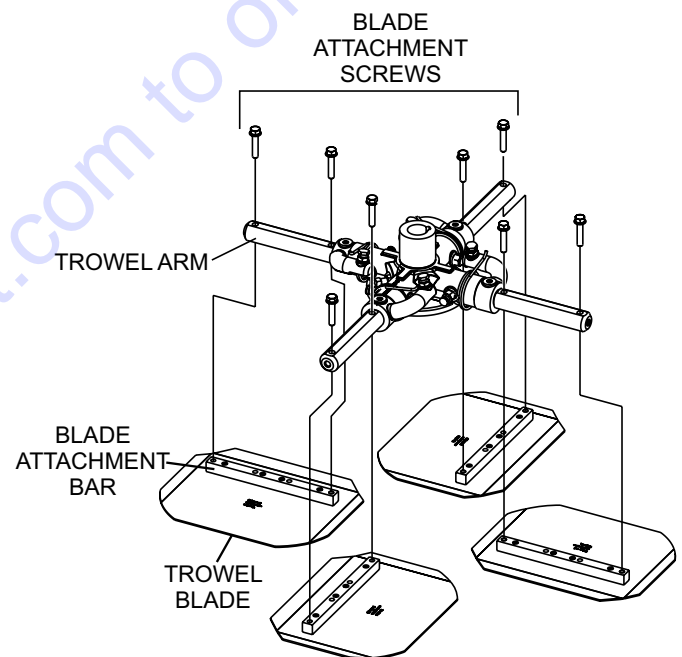

Figure 56. Blade Removal
2. Remove the bolts and lock washers from all the trowel arms, and then remove the blades as shown in Figure 56.